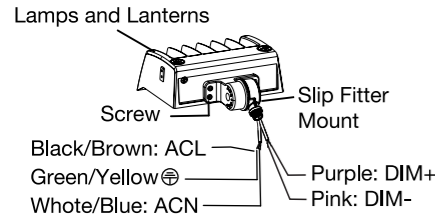

Figure 3.3
STEP 2: Finish the wire connection according to the right mode of connection (pay attention to positive wire, negative wire, and ground wire), and then put wire into lamp pole; (Figure 3.3)